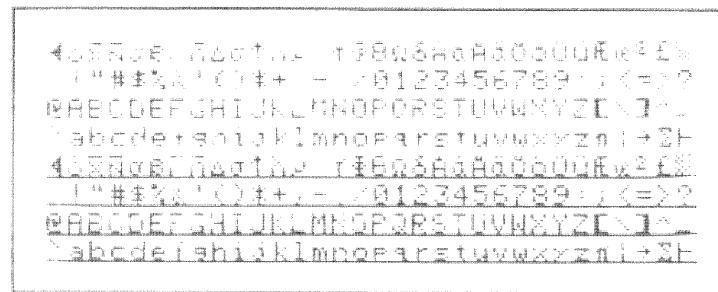

Figure 8-5. CRT Test Pattern 5
h. Eight lines containing two copies of the HP-85 character set (CRT test pattern 5), as shown in figure 8-5. The first four lines contain the 128 characters without underscores; the second four lines contain the same 128 characters underscored. The lines of {B}'s "roll" up off the top of the screen as the eight lines of characters roll up in the bottom of the screen.